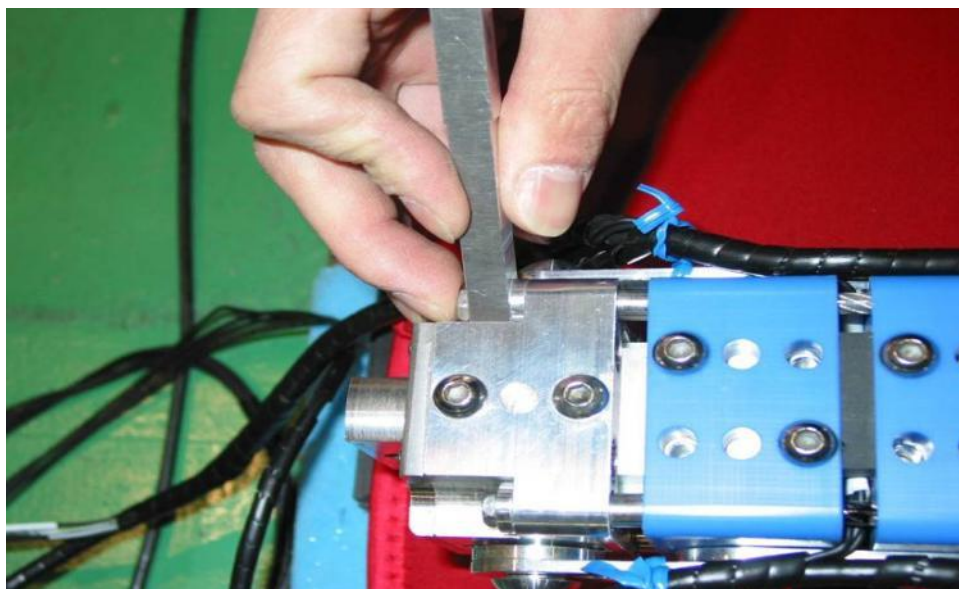

Figure 92 Stop cable clearance adjustment using setting tool
Step 4: Check the four stop cable clearances passing through the femur are set to 9.1 mm and 10.3 on the tibia. See Figure 92 a special tool 133-5112 is used for this;